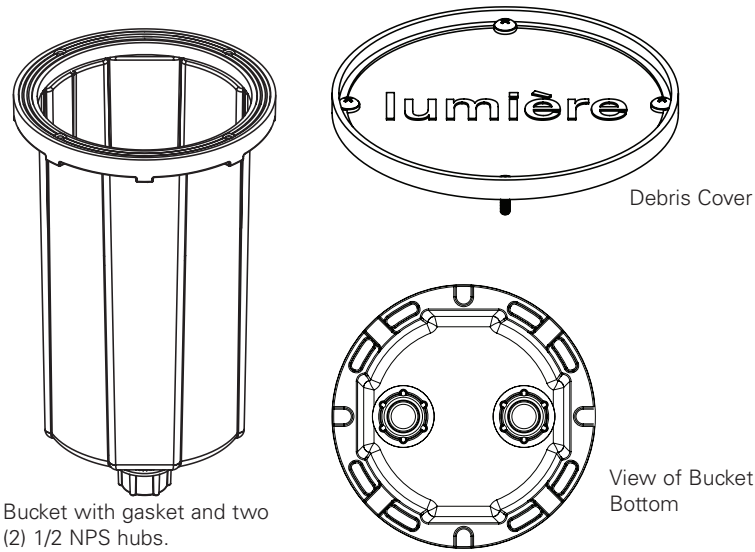

Figure 1.
2. Debris/concrete pour cover with four screws (4). (Figure 1)